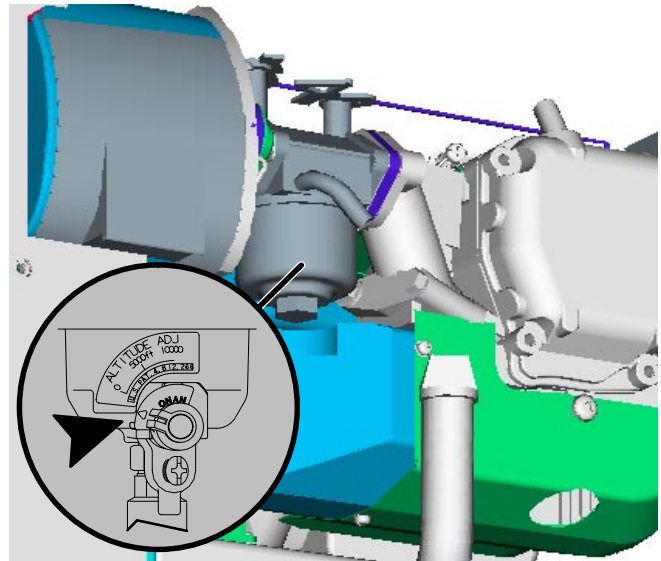

FIGURE 8. ALTITUDE ADJUST KNOB
2. Reset the carburetor for altitude (Figure 8).
5. Reset the carburetor for altitude (Figure 8).
For best fuel economy and genset operation reset the carburetor for the current altitude (Figure 8). Look at road maps and road signs. For the effect of altitude on maximum power, see LOADING THE GENSET (Page 9).